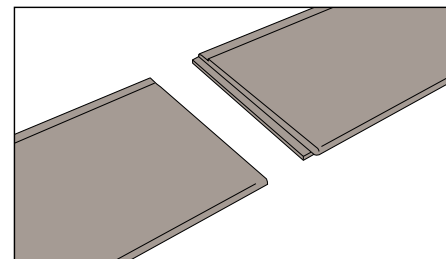

Fig. 15
- Evolution Siding uses Fraser-Lok technology that locks all 4 sides of the siding board – including ends. *(See Figure 15)*